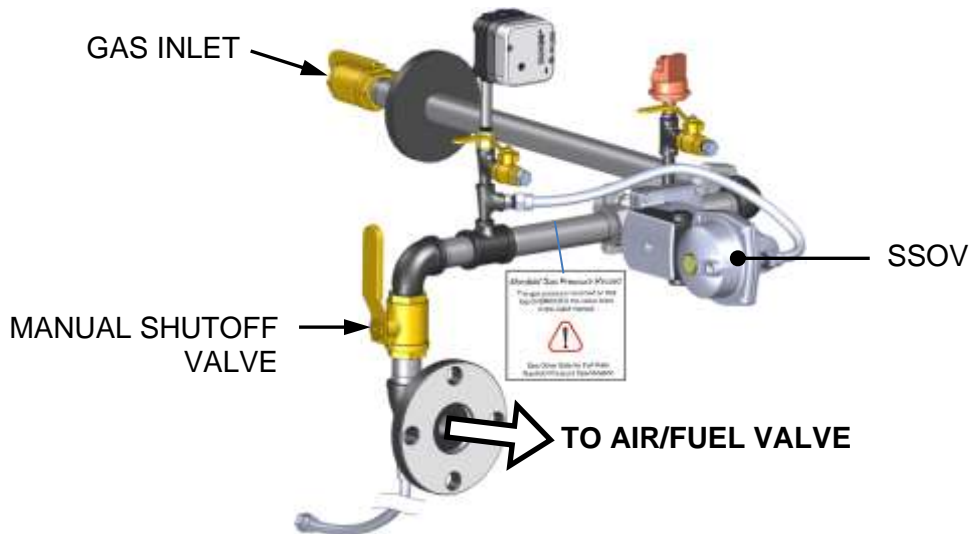

Figure 3-3. SSOV Location (INN600–1060 Gas Train shown)
2. The unit checks to ensure that the **Proof of Closure** (POC) switch in the downstream Safety Shut-Off Valve (SSOV) is closed. See Figure 3-3 for SSOV location.
4. The unit checks to ensure that the **Proof of Closure** (POC) switch in the downstream Safety Shut-Off Valve (SSOV) is closed. See Figure 3-3 for SSOV location.